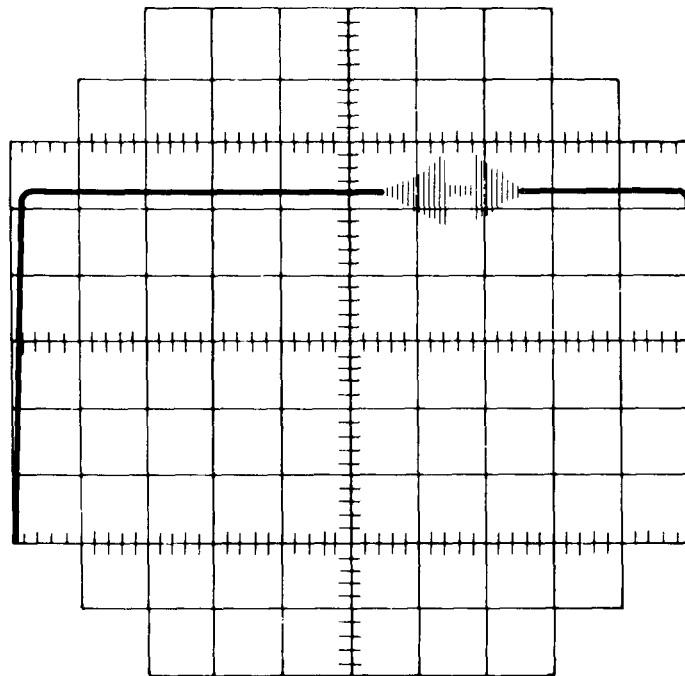

Figure 4-16. Internal Frequency Marker at Reduced Sweep Width
- u. Rotate SWEEP WIDTH ADJUST control CCW until 1000 MHz marker approximates that shown in figure 4-16.